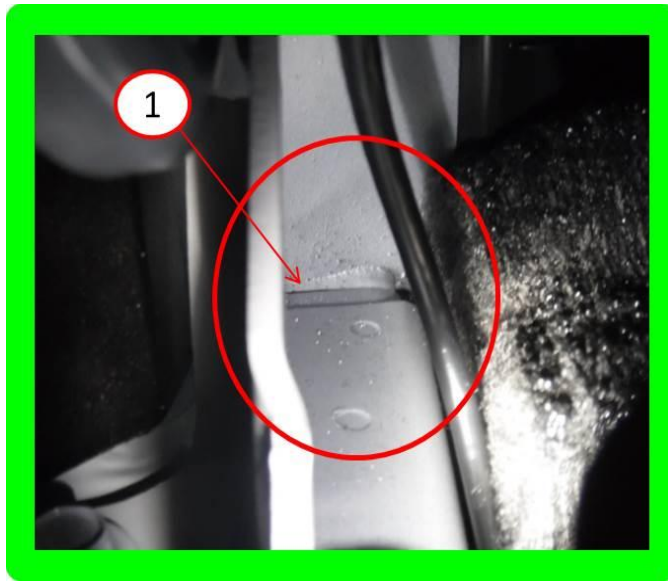

Fig. 3 Proper Amount Of Weld
- b. NO>>> Proper Sealant is applied and no further action needed at this location (Fig. 3). Proceed to Step #4.